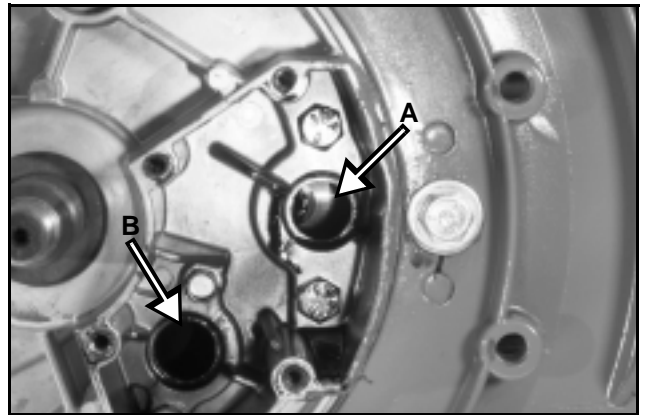
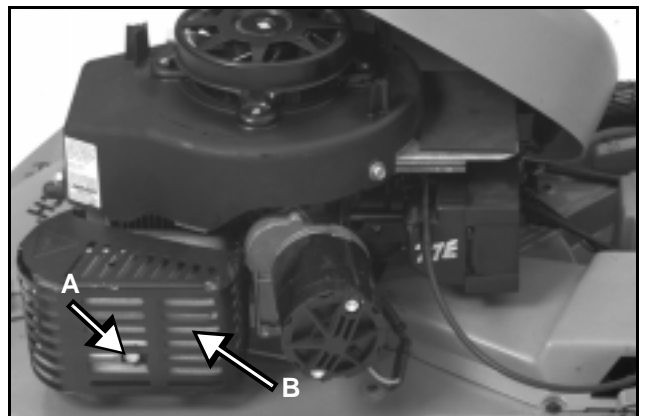

Figure 8
Figure 9
3. With the cover and exhaust pipe removed, you can see into the passage leading to the exhaust port of the engine (A) and passage to the muffler (B). If the exhaust requires cleaning, remove the engine and separate the engine and base for access to the exhaust ports. If the muffler requires cleaning, it can be removed by removing the 2 screws on either side of the muffler passage (see Figure 8) and one through the side of the muffler (see A in Figure 9). Use a stick of wood to scrape the carbon loose. Do not use a metal scraper.
4. The muffler (B) can be removed from the top of the mower to inspect for carbon buildup. (See Figure 9.)